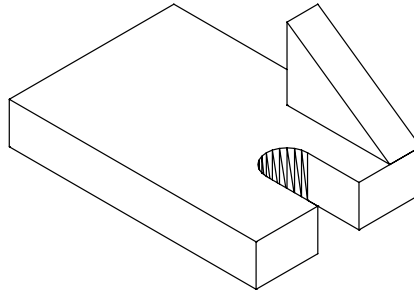

Figure 3-119 Wedge aligned with the base
9. Move this wedge and align it with the base. Use the **Vertex** option of the **3D Object Snap** to snap the vertex. The model after applying the **Hidden** visual style is shown in Figure 3-119.